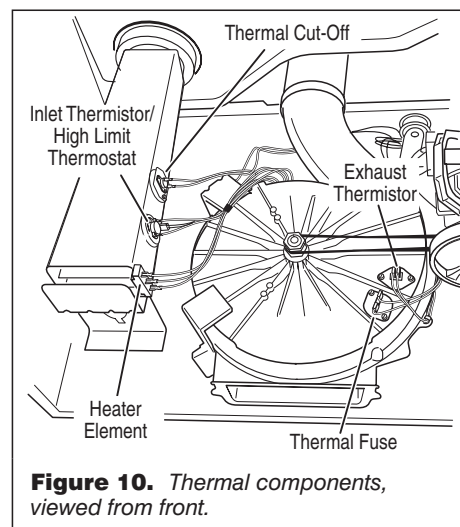

Figure 10. Thermal components, viewed from front.
Locate the components using figure 2, page 6; and figure 10.
- ➔ Check wire connections at the machine control electronics and thermistor. See Accessing & Removing the Electronic Assemblies, page 11; and for thermistor location, figure 10, page 8.
- ➔ Check wire connections at the machine control electronics and inlet thermistor. See Accessing & Removing the Electronic Assemblies, page 11, and for inlet thermistor location see figure 10, page 8.
- ➔ Check the resistance of the inlet thermistor. See figure 10, page 8 for location.
2. Access the thermal fuse by first removing the front panel. See Removing the Front Panel/Drum Assembly, page 11; and for thermal fuse location see figure 10, page 8.
3. Using an ohmmeter, check the continuity across the thermal cut-off. See figure 10, page 8, for location.